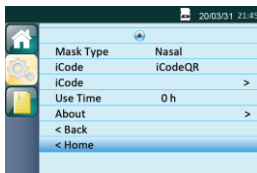

Fig. 13-11
(2) Returning to the Main Interface Move the cursor to the **Home** option by turning **the Knob**, as shown in Fig. 13-11.